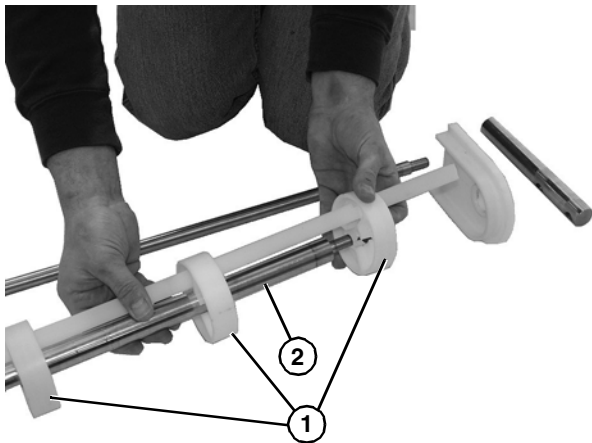

Figure 69
2. Slide all the idler pucks (Figure 69, item 1) along with alignment bar onto idler shaft (Figure 69, item 2).